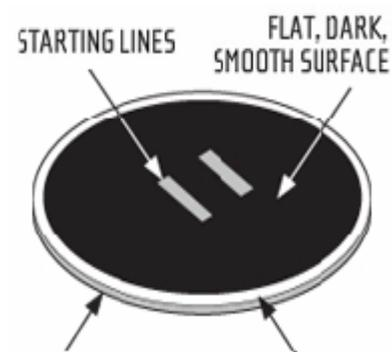

Figure 1 Example sumo filed with key components labelled
**1.1.1** The arena will be a circular ring 1000 to 1200 mm in diameter with a 50 mm white border around the ring’s perimeter (Figure 1).